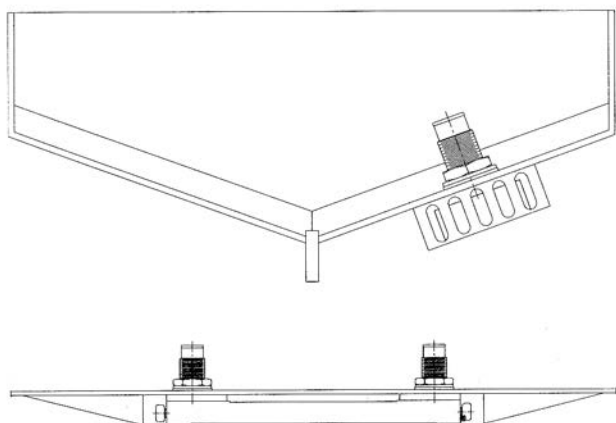

FIG. 1 *External type installation with E1 OPTION end-mounted zinc anodes using fairing blocks for protection and streamlining.*
- 1.1.2 Always install the unit parallel, not transverse, to the skeg or keel. See Figures 1 & 2.
- 1.6.5 If side plates and fairing blocks are used, make sure that the side plates are scalloped (notched) out so they will not entrap water. Fairing blocks are most effective when installed with a 4 to 1 slope. See Figures 1 & 6.